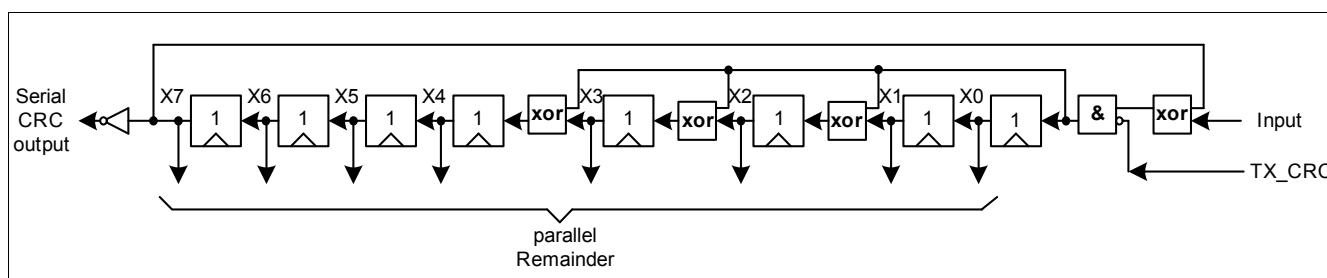

Figure 5-7 Fast CRC polynomial division circuit
- Generator polynomial:  $X^8+X^4+X^3+X^2+1$ , but for the CRC generation the fast-CRC generation circuit is used (see Figure 5-7)